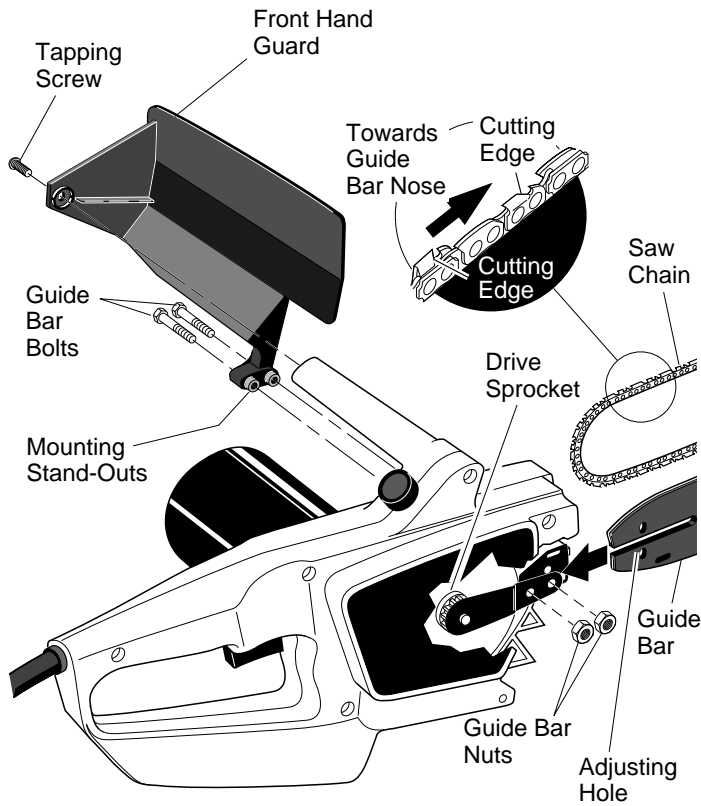

Figure 3 - Assembling Guide Bar, Chain, and Hand Guard
2. Install front hand guard onto saw body. Do this by pressing two mounting stand-outs on hand guard into hex-shaped holes in saw body (see Figure 3).
8. Place chain around drive sprocket, then along top groove of guide bar and around guide bar nose. *Note:* Make sure cutting edges of chain are facing the right direction. Position chain so cutting edges on top of guide bar face guide bar nose (see Figure 3).
1. Before adjusting chain, make sure guide bar nuts are only finger tight (see Figure 3, page 7). Also make sure adjusting block is in oval adjusting hole on guide bar (see Figures 3 and 4, page 7).